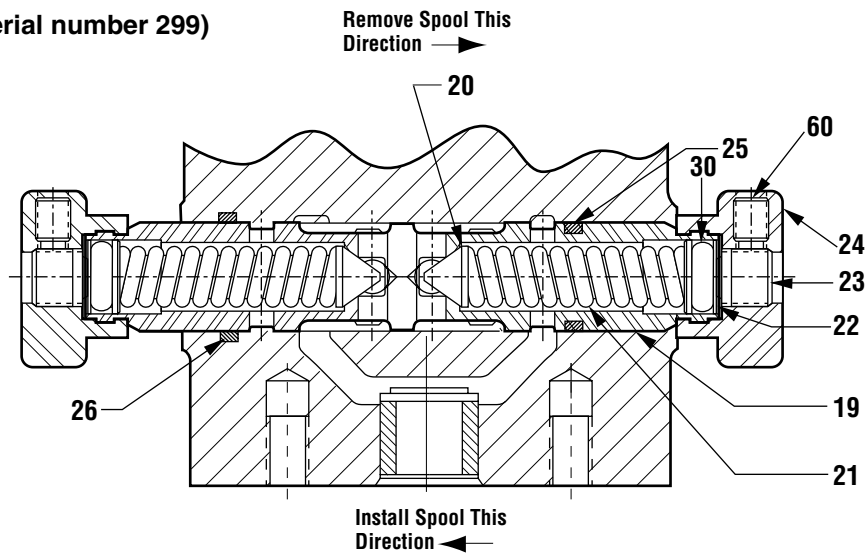

Figure 5
### Reversing Spool (See Figure 5)
1. Install O-ring (25) onto reversing spool (19). Replace O-ring (26) in handle (1).
2. Install O-ring (30) on plug (22). At O-ring end of spool (19) install poppet (20), spring (21) and plug (22). Secure assembly with cap (24).
3. Slide reversing spool assembly into handle (1), as shown in Figure 5.
4. Install poppet (20), spring (21) and plug (22) into opposite end of spool (19). Secure with cap (24). Use two wrenches on cap (24) and tighten to 23 foot-pounds.